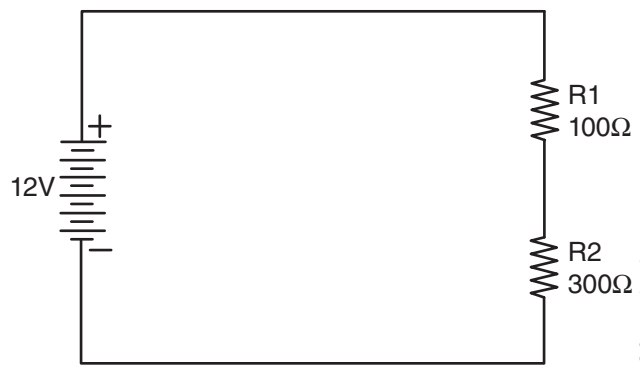

Figure 2-56
11. Solve for the following values shown in **Figure 2-56**: